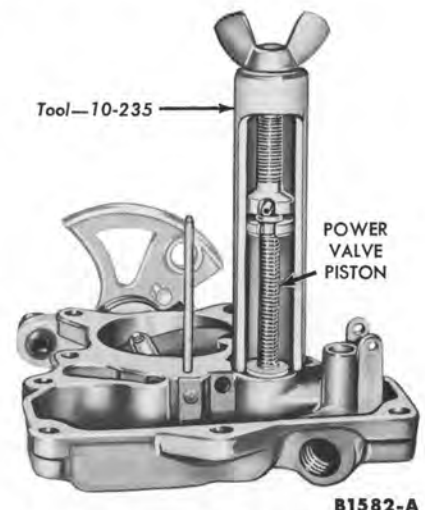

FIG. 26—Power Valve Piston Removal
4. Using a puller (tool-10-235), remove the power valve piston assembly (Fig. 26).